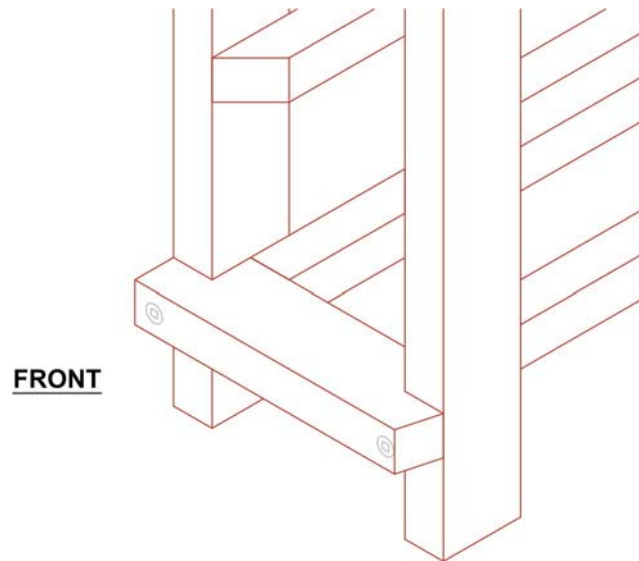

Figure 3
5. At this point both ladders should be attached to the first spacer bar (**Figure 3**). Set another spacer bar (make sure that you have the angled side of the front outer column spacer bar facing the same direction as the first spacer bar) over the next spacer slot location. Attach using the same method as in steps 2 and 3. Repeat for the remaining front spacer bar locations.